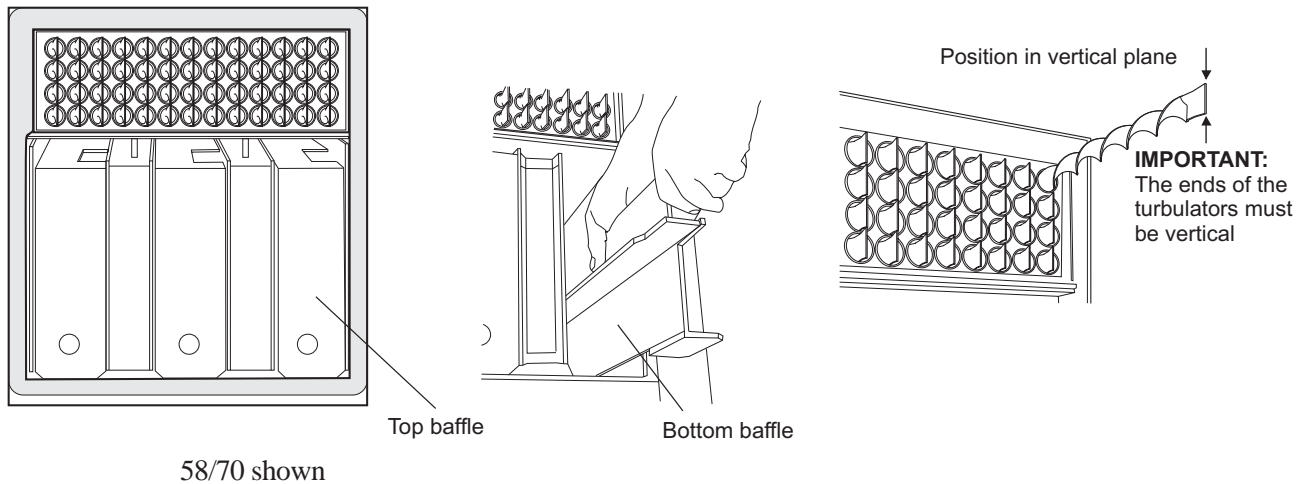

Fig. 26 - 46/58 and 58/70 baffles and turbulators (all models)
Check that the turbulators are in position and that the ends are vertical (see Fig. 26).
- 7 Pull out the spiral turbulators from the heat exchanger tubes. See Fig. 26.
Electrode tips approximately 4 mm apart and 3 to 3.5 mm in front of the nozzle, see Fig 26.